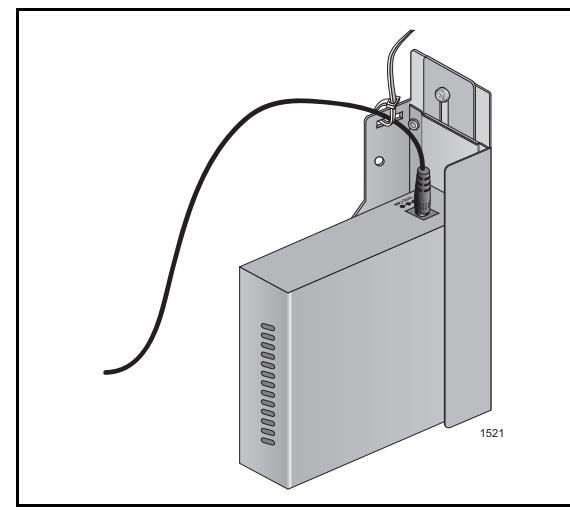

Figure 4 - Securing the DC power cord to the DINRAIL bracket
3. For all of the media converters except the AT-PC232/POE and the AT-PC2002/POE, install the DC power cord and secure it to the bracket with a tie-wrap, as shown in Figure 4, "Securing the DC power cord to the DINRAIL bracket".